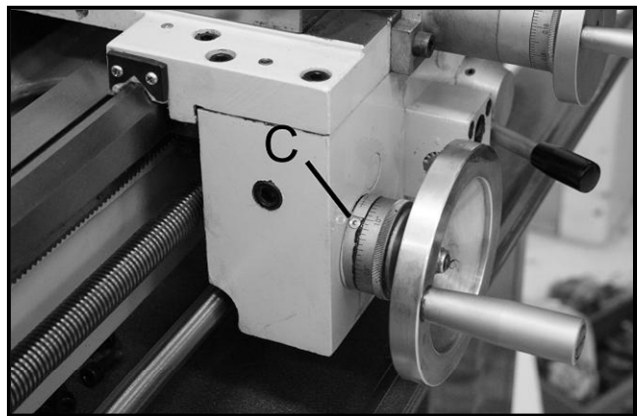

Figure-45 Cross slide hand wheel oil port
To drain the oil, remove the drain plug on the left side of headstock. See figure-45. Drain completely and refill after first three months of operation. Then, change oil in the headstock annually.
Lubricate the oil port (C) on the cross slide hand wheel shown in figure-45 with 20W machine.